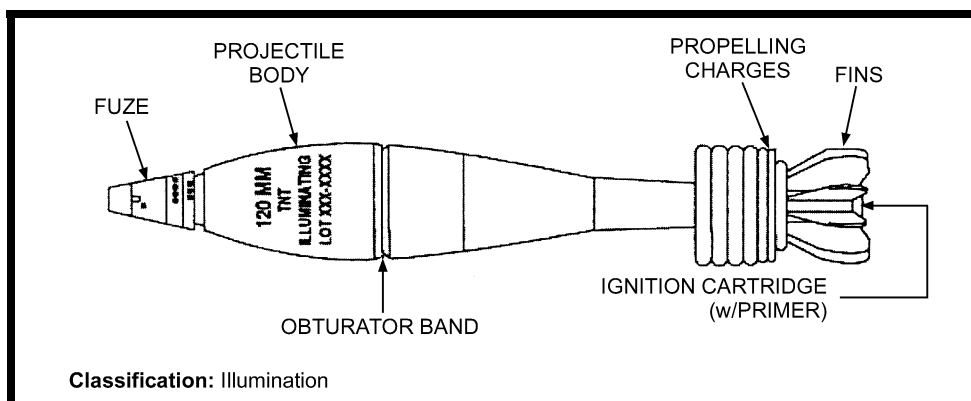
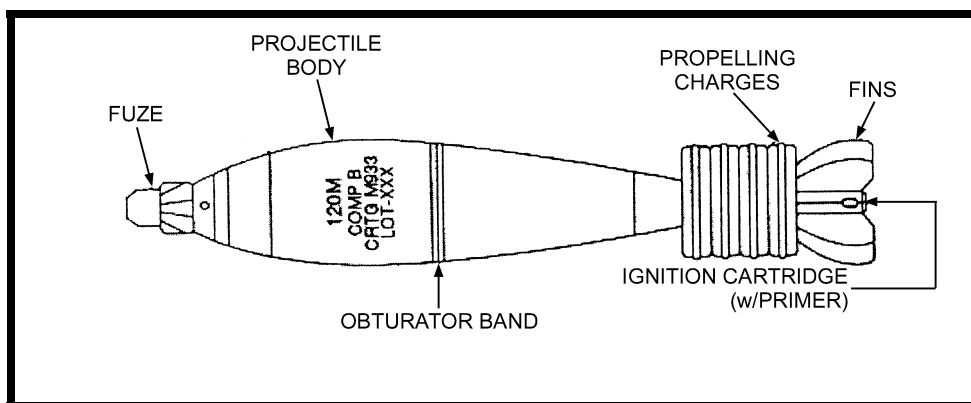

Figure 7-11. M91 illumination cartridge.
Figure 7-12. M933 HE cartridge.
c. **M91 Illumination Cartridge (NDI)** (Figure 7-11, page 7-32).
(1) Identification: White with black markings.
(2) Components: M776 (DM93) mechanical time superquick (MTSQ) fuze.
(3) Maximum range: 6,200 meters at charge 8; 7,100 meters at charge 10.
(4) Remarks: Contains candle and parachute used for illumination (weight to 29 pounds [13.18 kilograms]); burn time—46 to 60 seconds; candle power—1,000,000.
d. **M933 HE Cartridge** (Figure 7-12).
- (1) Type and use: High explosive fragmentation and blast.
- (2) Identification: Olive drab with yellow markings.
- (3) Components: M745 PD fuze; M230 propelling charge.
- (4) Maximum range: 7,200 meters at charge 4.
- (5) Minimum range: 200 meters at charge 0.